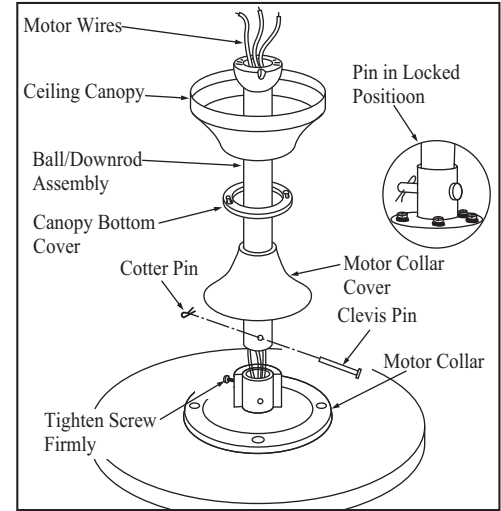

Figure 5
3. Remove the clevis pin, cotter pin and set screws from the top of the motor assembly. (Figure 5)
4. Route wires exiting from the top of the fan motor through the coupling cover, canopy cover, canopy and then through the ball/downrod. (Figure 5)
5. Align the holes at the bottom of the downrod with the holes in the coupling on top of the motor housing. (Figure 5) Carefully insert the clevis pin through the holes in the collar and downrod. Be careful not to jam the clevis pin against the wiring inside the downrod. Insert the cotter pin through the hole near the end of the clevis pin until it snaps into its locked position, as noted in the circle inset of Fig. 5.
6. Tighten two set screws at top of the fan motor collar firmly and evenly. (Fig. 5)